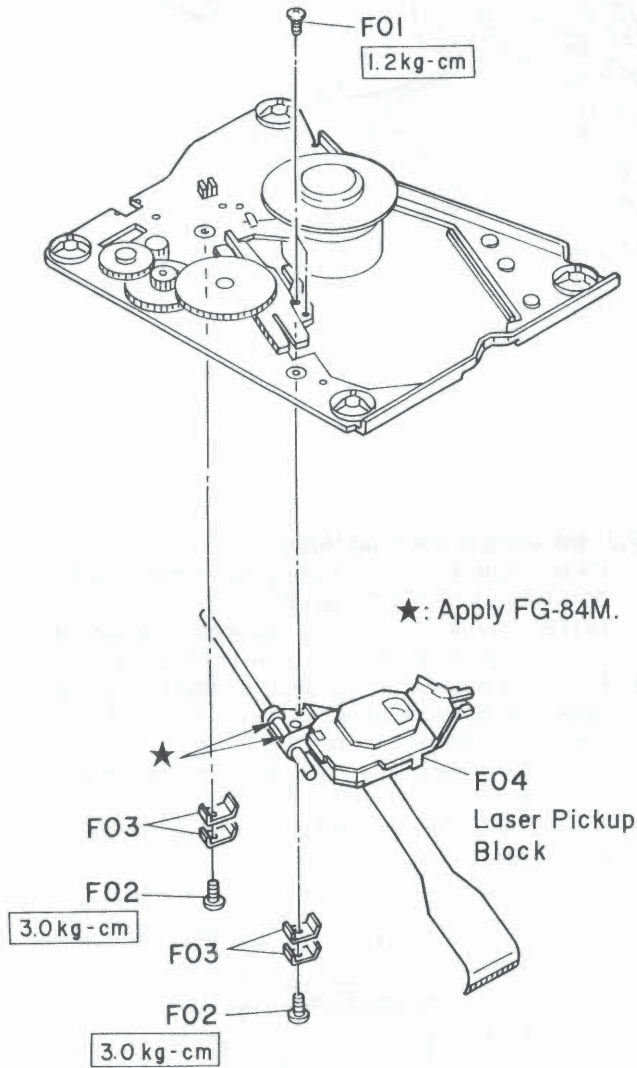
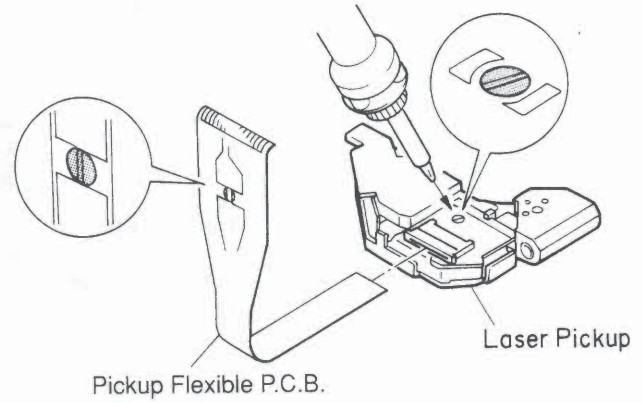

Fig. 2.8.1
Fig. 2.8.2
Refer to Fig. 2.8.1.
- (4) Before disconnecting the Pickup Flexible P.C.B. from the Laser Pickup, short the laser diode shorting lands on the bottom of the Laser Pickup. Refer to Fig. 2.8.2.
- (5) Disconnect the Pickup Flexible P.C.B. from the Laser Pickup.
- (1) Connect the Pickup Flexible P.C.B. to the Laser Pickup. Refer to Fig. 2.8.2.
- (2) Open the laser diode shorting lands on the bottom of the Laser Pickup. Refer to Fig. 2.8.2.
- (3) Insert the PU Guide Shaft SL into the Laser Pickup.
- (4) Assemble F04 (Laser Pickup Block) with F03 (4 pcs.) by tightening screws F02 (2 pcs.) with a torque of 3.0 kg-cm.
- (5) Assemble F04 (Laser Pickup Block) with screws F01 (2 pcs.) with a torque of 1.2 kg-cm. Refer to Fig. 2.8.1.